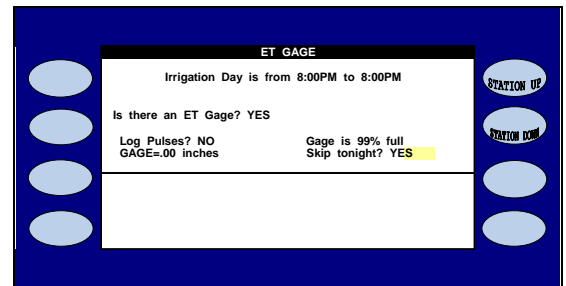

Figure 9
- 13.  Press the blue **ARROW** keys to move the cursor to the **SKIP TONIGHT?** (Figure 9).